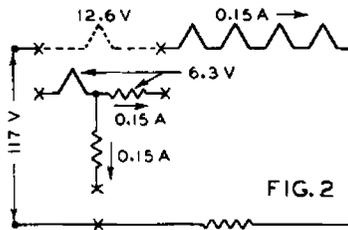
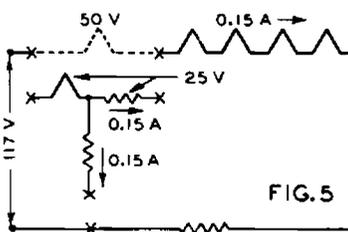

FIG. 2
FIG. 5
**FIG. 2**—To substitute a 6.3 v. 300 ma. type for a 12.6 v. 150 ma. type in string position as indicated, calculate value of resistor  $R$  which must shunt all components in the heater string except the substitute type. Using the formula  $R = E/I$ , we have
**FIG. 5**—To substitute a 25 v. 300 ma. type for a 50 v. 150 ma. type in string position as indicated, proceed as in discussion for Fig. 2. Value of shunt resistor  $R$  is